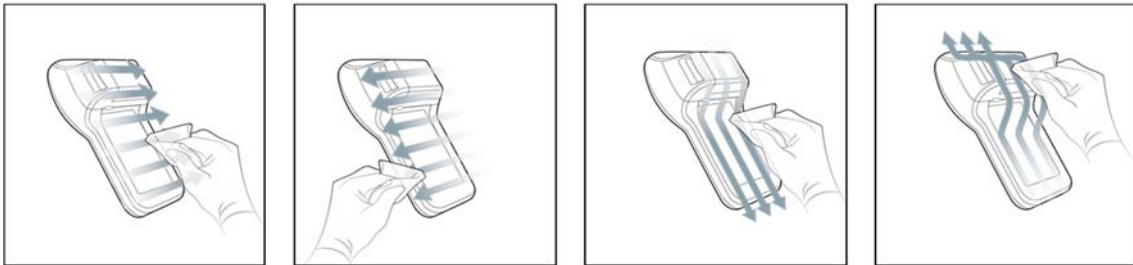

Figure 3. Wipe the meter front and meter screen respectively.
4. Follow the Figure 3 to wipe the meter front and meter screen respectively.